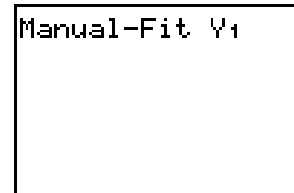

Figure 28
- Press $\left[\text{2ND} \right]$ from the Home screen to start the process of setting the line of best fit (Figure 28).